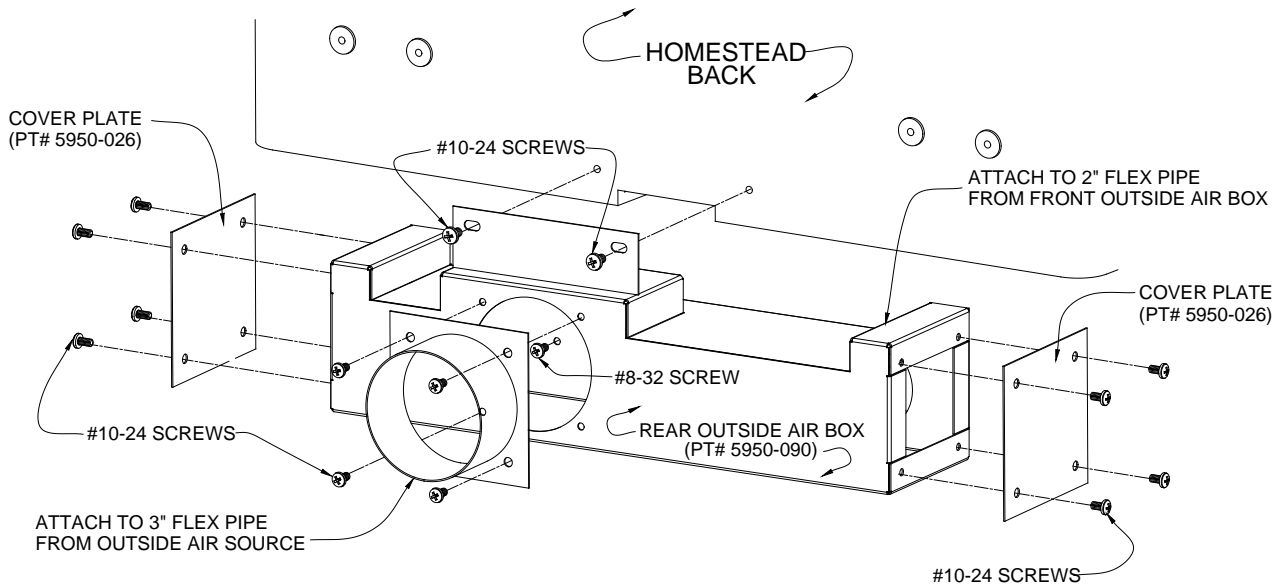

Figure 2 – Rear Outside Air Box Detail
Important: Before you install the outside air kit, determine where the 3" duct supplying the rear outside air box will originate. The duct can be attached either to the back, the left or the right sides of the rear outside air box by changing the position of the intake adaptor and blank cover plates. (Refer to figure 2)
Note: If a blank cover will be attached to the rear opening location leave this piece off until the rear outside air box has been installed to the unit.(Refer to figure 2)
- 4) Slide the rear outside air box under the rear of the stove so that the 2" nozzle will meet the 2" flex pipe installed on the front outside air box and connect these two pieces. Now align the tab on the rear outside air box with the two screw holes in the rear lower center of the unit. Remove the factory-installed screws and place the tab flush to the back of the stove. Secure the box with the two 10-24 screws. Do not tighten these screws yet. Check to ensure the 2" flex pipe is snugly connected to the front and rear outside air boxes. (Refer to figure 2)
- 5) Looking through the 3" opening in the rear of the air box align the hole in the back of the ash pan box with the hole in the rear air box and install the #8-32 screw to secure the rear air box to the ash pan box. Tighten all screws so the rear outside air box is held securely in place. (Refer to figure 2)